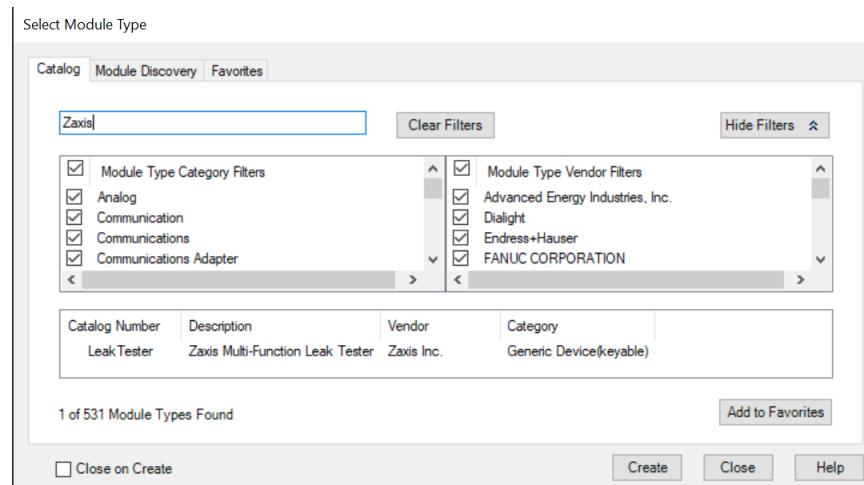

Figure 2 - Create Zaxis Leak Tester
3. The **Select Module Type** window should be as displayed as seen in Figure 2.